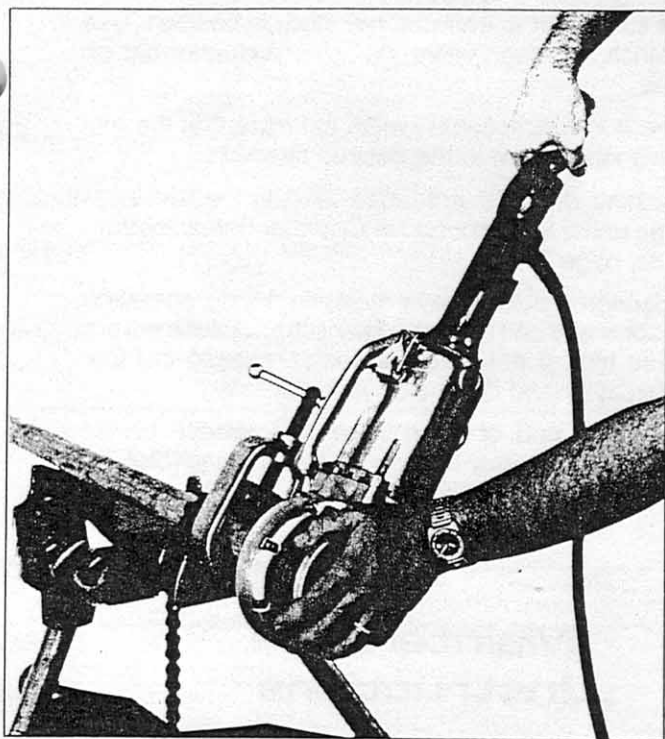

Figure 12 — Starting Thread
9. While pressing the heel of the left hand firmly against the die head, bring the handle down quickly with the right hand, forcing the dies to bite into the pipe. (Fig. 12)